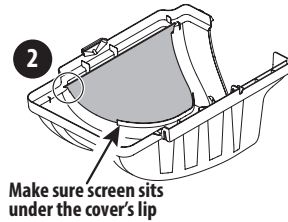

Figure 10
4. Make sure to feed the screen under the lip. Clip in the other side by pushing the screen into the provided cut-out (2). See Figure 10.